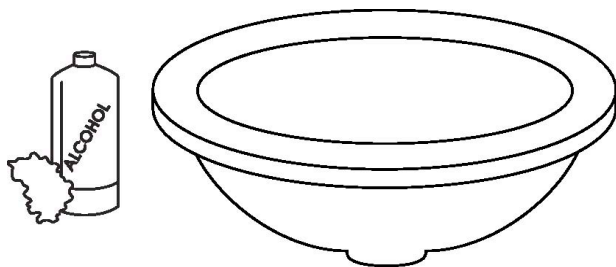

Figure C-9
- Clean the bowl's top flange and the cutout with denatured alcohol and a clean, white cloth (Figure C-9).